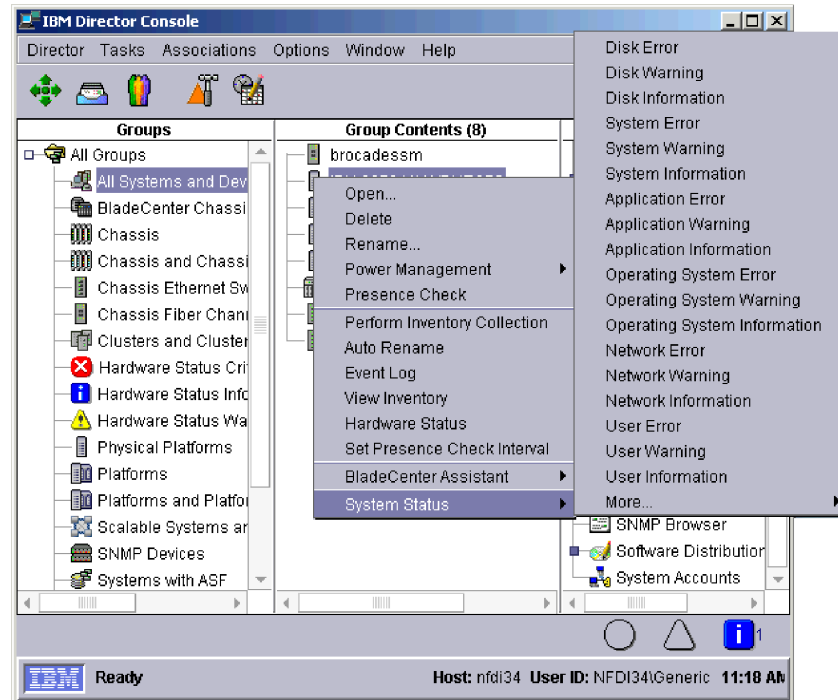

Figure 19. System Status menu
2. Right-click the managed object in the Group Contents pane that you added the Disk Information system status to, and click **System Status**. The System Status menu is displayed as shown in Figure 19.